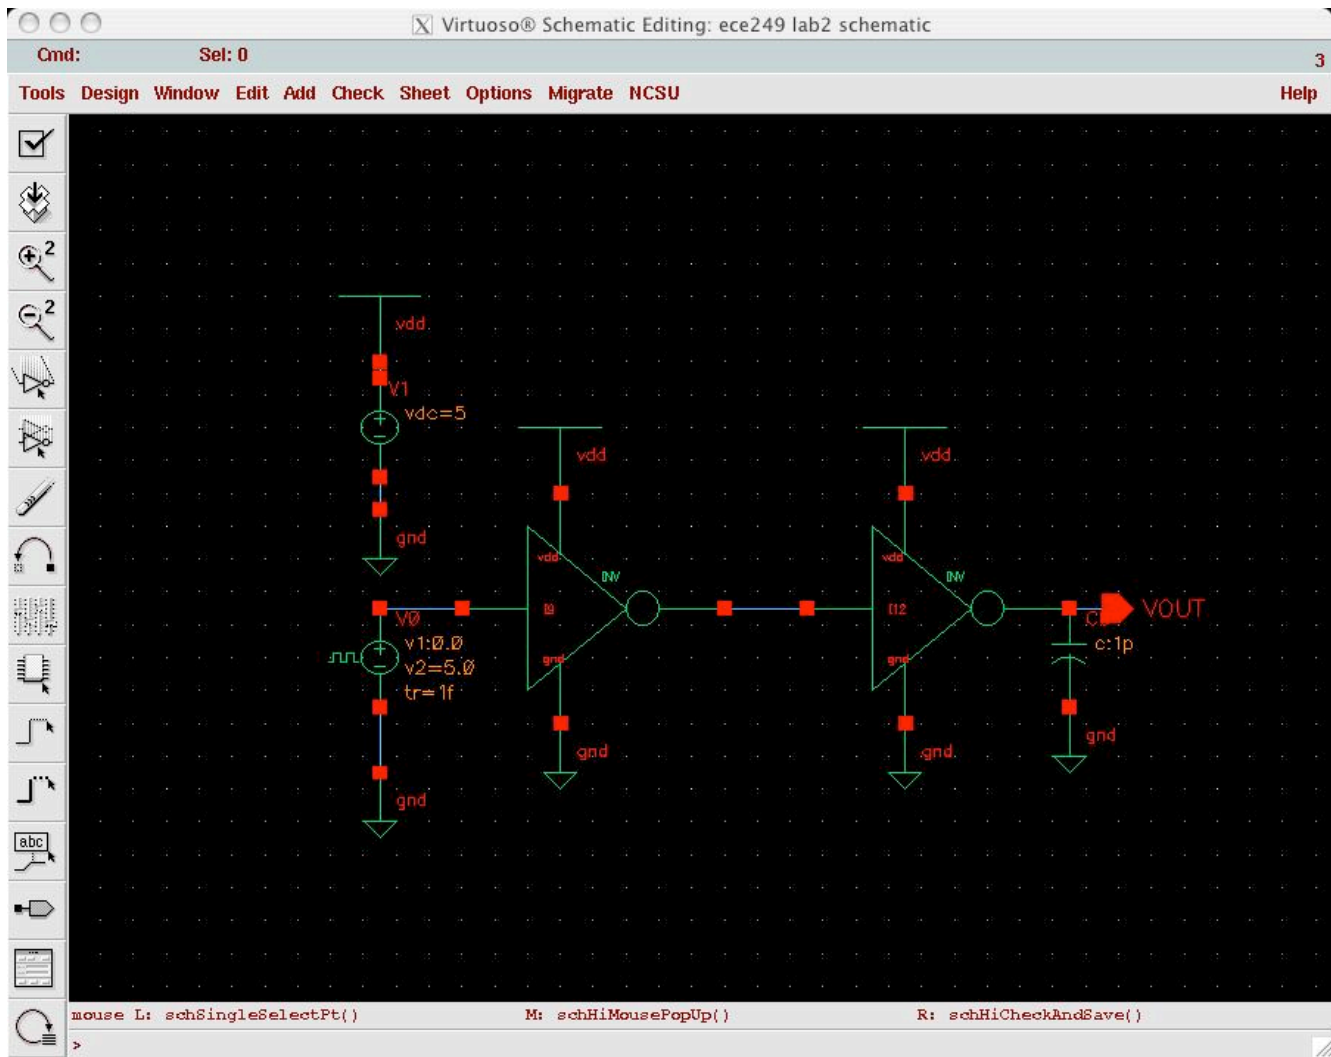

Fig. 6. Two inverters with capacitor.
Step 6: Add a second inverter as shown in Figure 6. For both inverters, adjust the pMOS width to the value you arrived at above so that both inverters are balanced.